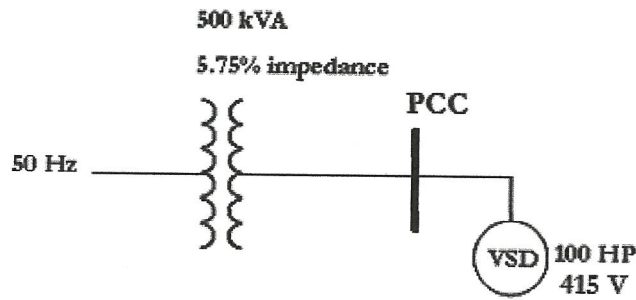

Figure Q2(b)
- (b) **Figure Q2(b)** shows the single line diagram of a small industrial plant. Where a variable speed drive of 100 HP is supplied by a transformer at 415 V, 50 Hz. The transformer is rated at 500 kVA and 5.75% impedance. The line current drawn by the load is given by the expression: